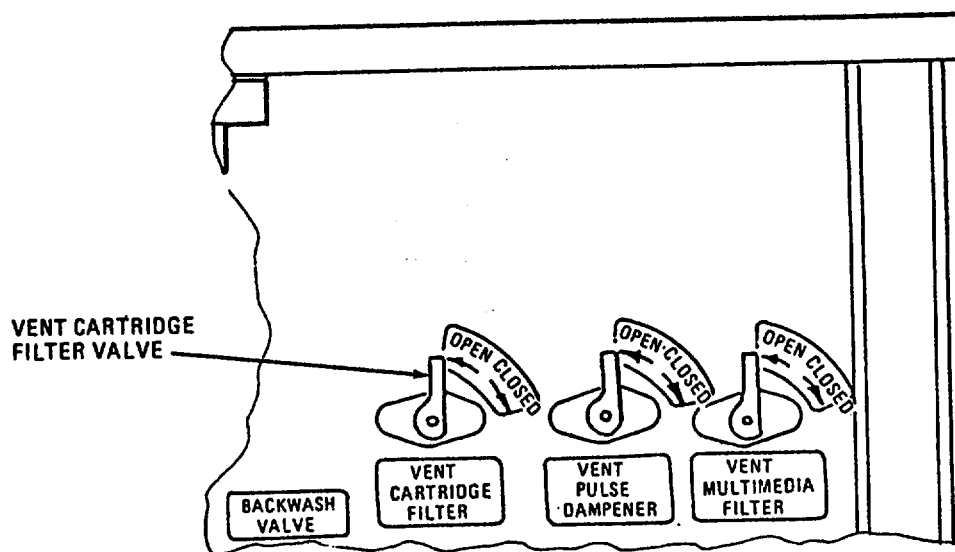

FIGURE 2-56. CARTRIDGE FILTER VENT VALVE
- (1) Set VENT CARTRIDGE FILTER valve (figure 2-56) to OPEN.